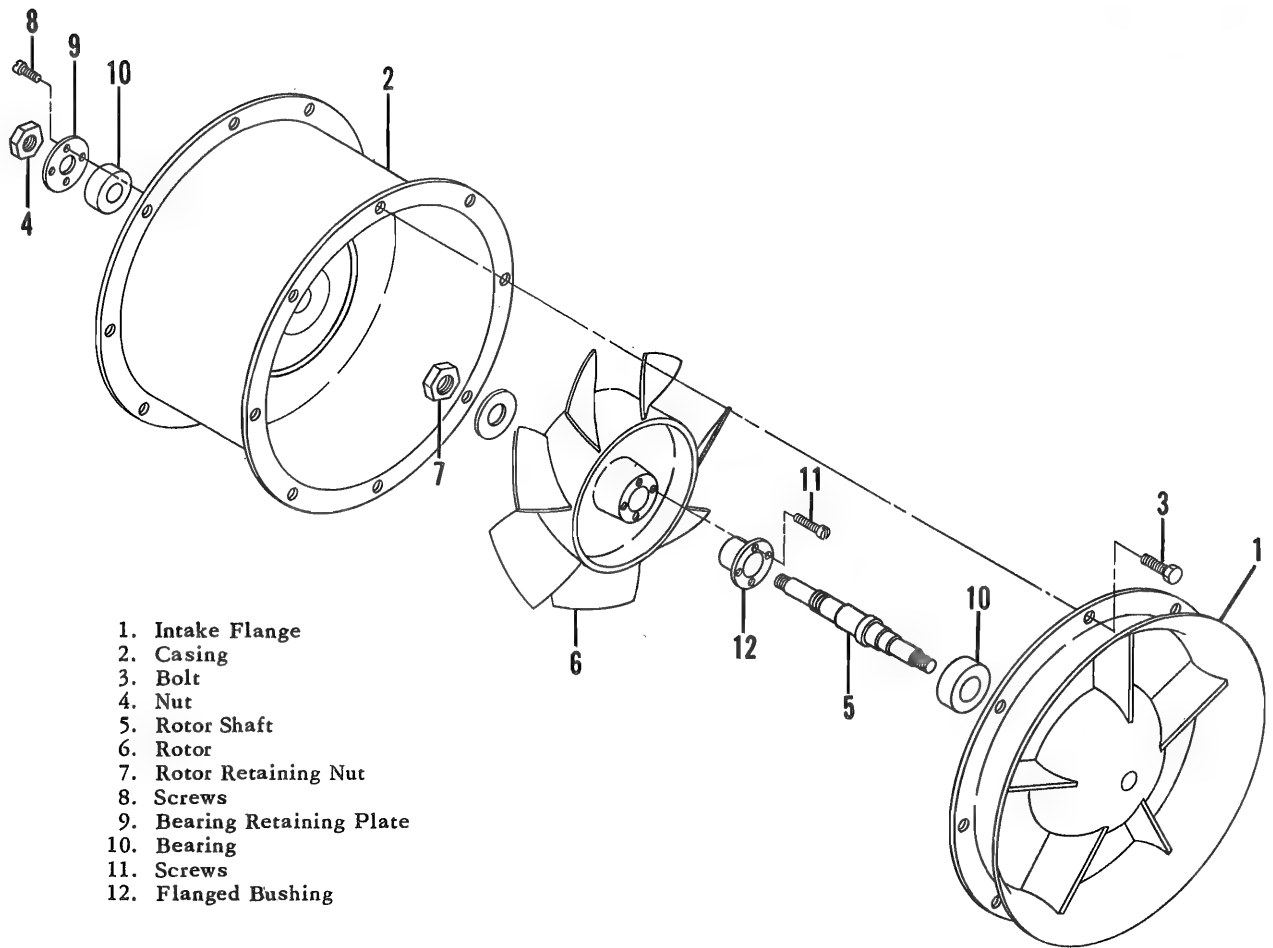

Figure 4-13. Fan Assembly
a. Remove driven pulley (3) from blower shaft by removing lock nut (1), small washer (32), large washer (33), and key (29).
b. Remove intake flange (1, figure 4-13) from casing (2) by removing remaining bolts (3) and pull off flange.
c. Remove nut (4) and washer from rear end of rotor shaft (5) and pull out rotor (6) and shaft.
d. Remove rotor retaining nut (7) and washer. Remove rotor from shaft.
e. Remove rear shaft bearing (10) by removing screws (8) and bearing retaining plate (9) and press out bearing.
f. Remove screws (11) that secure flanged bushing (12) to rotor, and remove bushing.
4-68. REASSEMBLY. (See figure 4-13.)